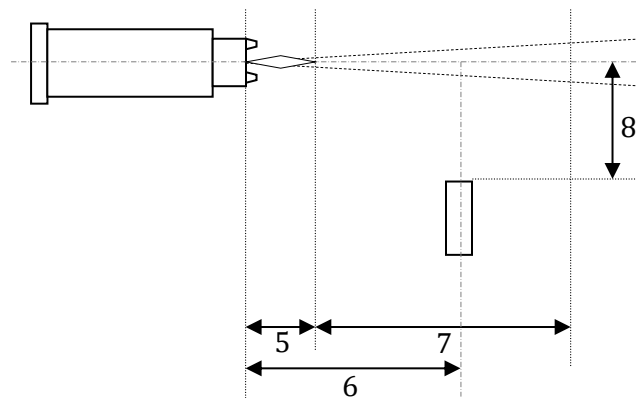

FIGURE 11 DPV EVOLUTION INSTALLATION DRAWING
It is not necessary to take the reference measurements at the exact same stand-off you use for coating, as long as you keep the reference distance (6) constant over time. See Figure 11 DPV Evolution installation drawing.
Step 9. If monitoring is required while spraying, set measuring point within measuring area (7), away from the substrate because of flow perturbation phenomena as the spray hits the substrate.